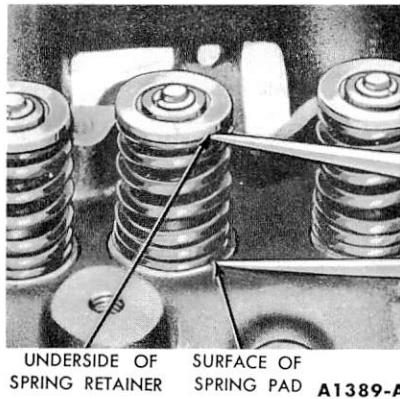

FIG. 33—Valve Spring Assembled Height
5. Measure the assembled height of the valve spring from the surface of the cylinder head spring pad to the underside of the spring retainer with dividers (Fig. 33).